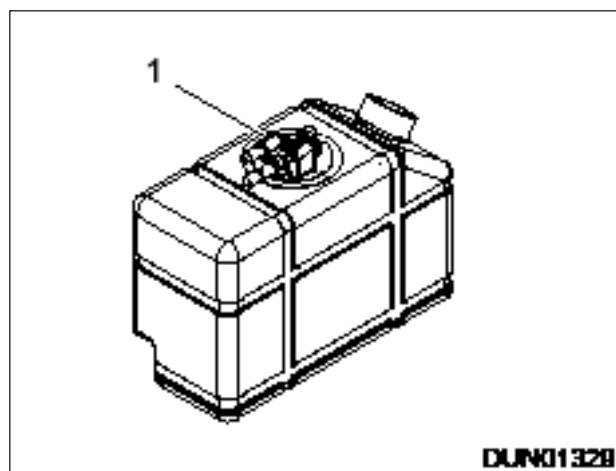

Figure 9.37 - DEF Manifold Filter
2. Unclip the hoses and the sensor from the top of the DEF Manifold (Item 1), Reference: Figure 9.37.